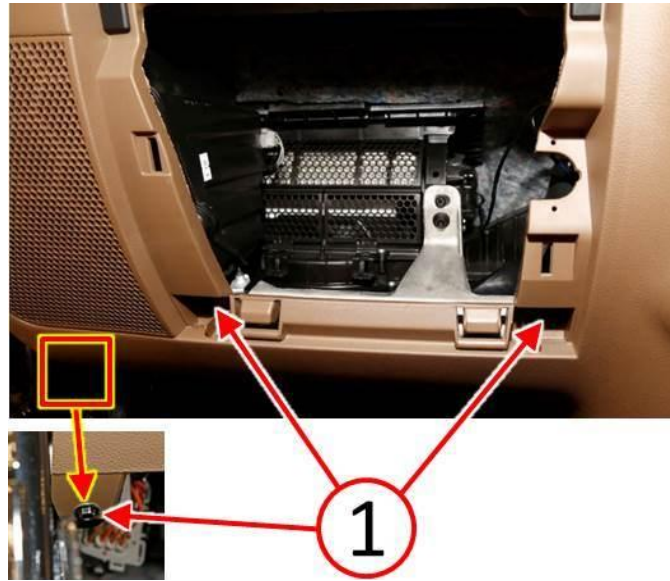

Fig. 11 Instrument Panel Left Side Fasteners
26. Install the three fasteners (1) attaching the lower left side of the instrument panel cover (Fig. 11).